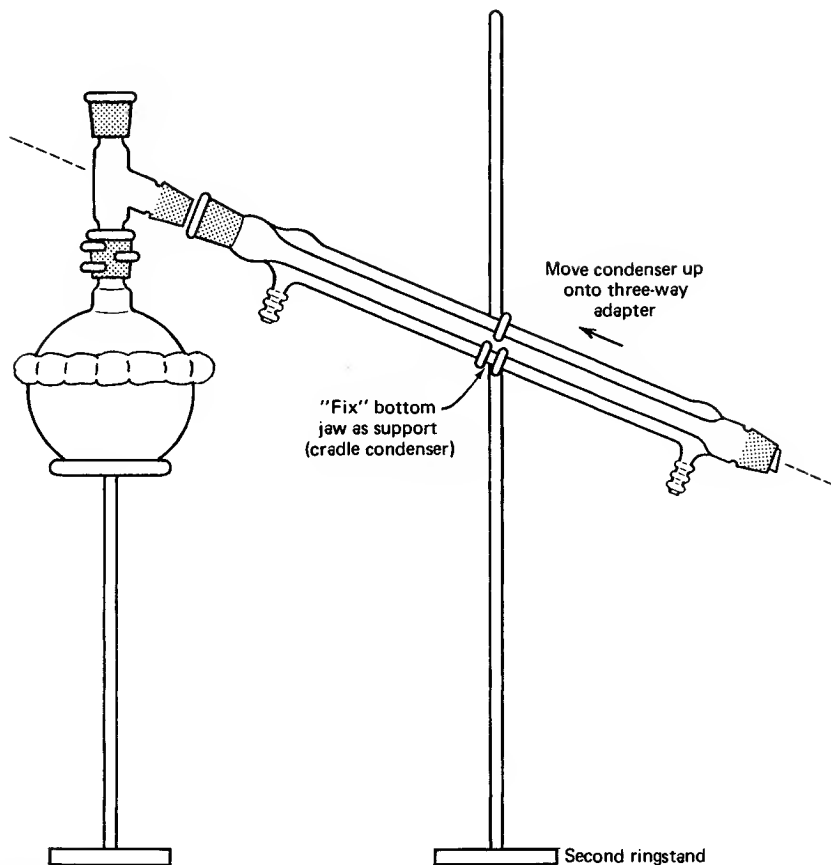

Fig. 70 Clamping the condenser without arthritic joints.
6. Place the two-prong clamp jaw in line with the condenser. Attach the condenser to the three-way adapter (Fig. 70). Hold everything! Sure. OK, *loosen extension clamp holder thumbscrew*, turn clamp to correct angle, and tighten. Now the height — up just a bit — Good! The lower “fixed” jaw cradles the condenser. *Tighten the ringstand thumbscrew (Arrrgh!) Clamps tend to move up ever so slightly as you tighten the fastener on the ringstand.*
7. Bottom jaw supports condenser—check. Joint at the three-way adapter/condenser OK? Good. Tighten wing nut and *bring the single-prong jaw down* onto condenser (Fig. 70). Not too tight.